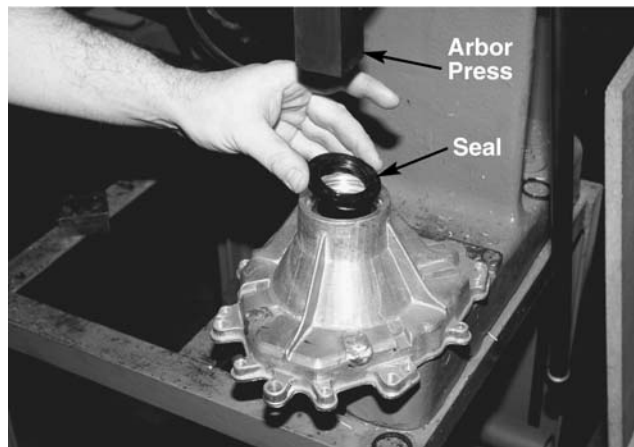

Figure 10-57.
17. Reassemble the axle, inspect the seal area of the housing for burrs or damage. The housing is chamfered so the seal starts easy and locates well. Using a piece of material close to the outside diameter of the seal so you are supporting it properly as you press it in. You will feel the seal bottom out against the shoulder of the inside of the housing. Inspect it to make sure it is seated properly. See Figure 10-57.